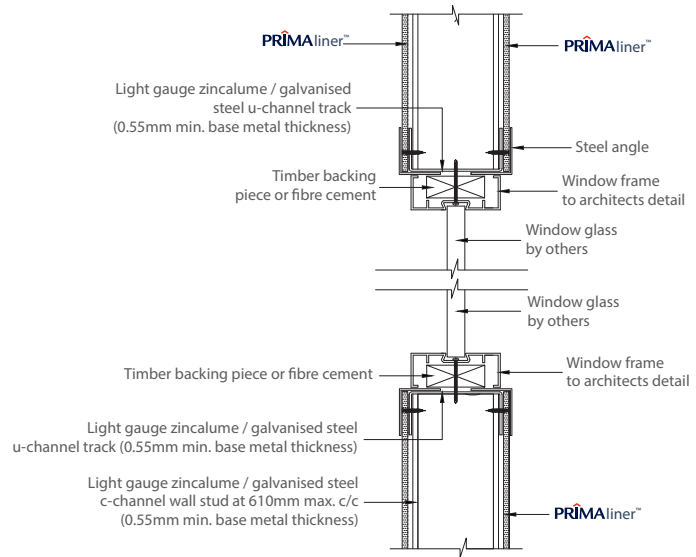

Figure 6: Typical Window Frame Installation Details
- Use U stud for horizontal (top & bottom) and C stud for vertical (left & right) window stud frame. Refer to Figure 6 for typical window frame installation details.